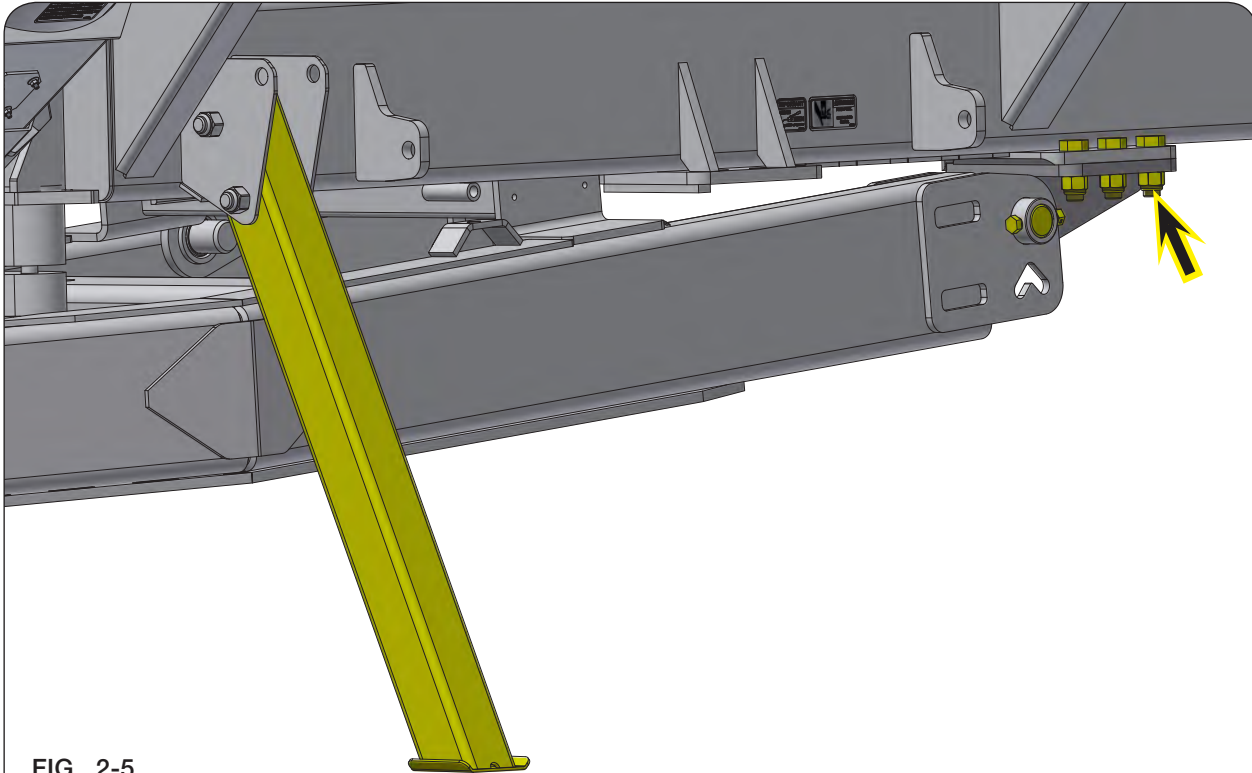

FIG. 2-5
7. Remove and save the 1"-14UNS x 3" capscrews (9390-409) and 1"-14UNS elastic locknuts (9008441) from the tongue pivot weldments (left-hand 274818G/R; right-hand 274819G/R). (FIG. 2-5)